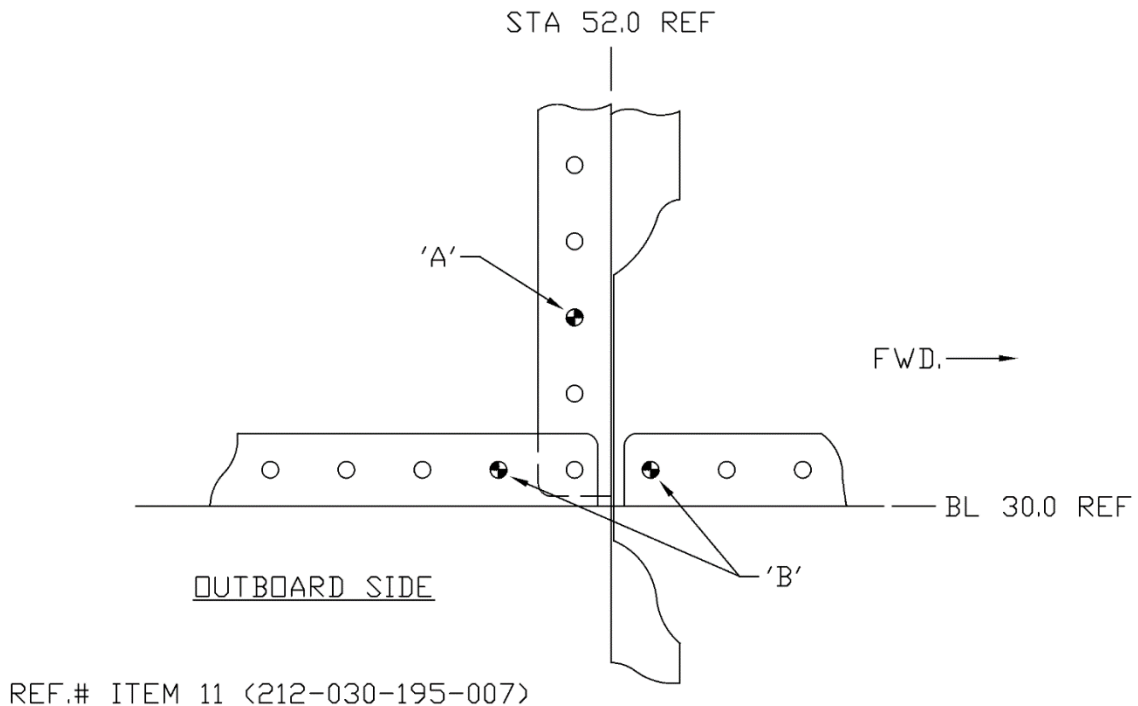

Figure 1
2. Drill out rivets at A and B (Reference Figures 1 & 2). Open up holes to #11 (Ø.191") drill diameter.
5. Spot drill a pilot hole in the aluminum Support, Assy, RHS (Item 5) at location B. Reference Figures 1 & 2.